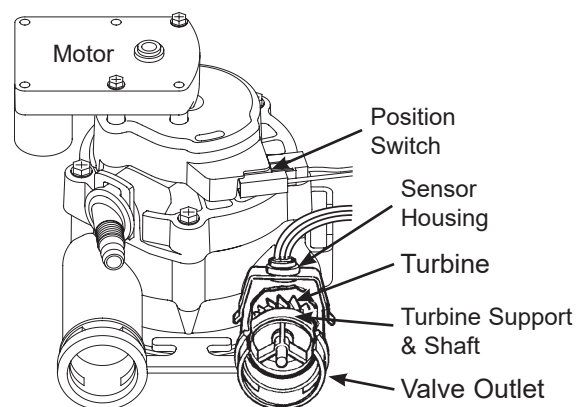

FIG. 112
6. If the display reading does not change with the faucet open, pull the wire harness from the valve outlet port (See Figure 112).